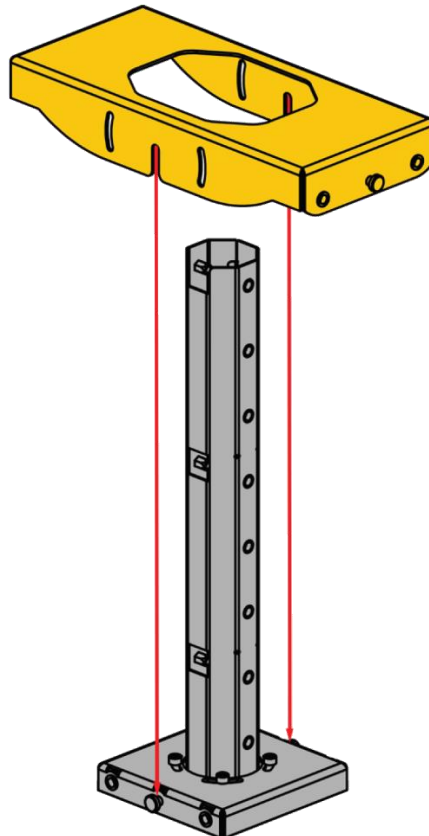

Figure 87: Step 6
Step 6: Slide the middle plate ⑤ over the lower tube ③ and top plate ④, as shown in **Figure 87**.